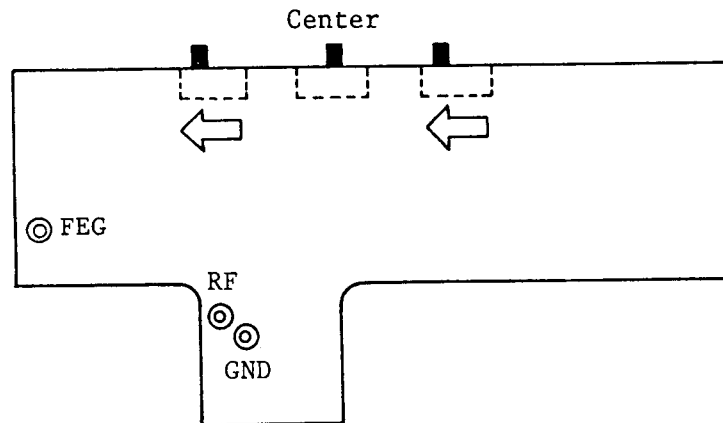

Fig. 2-11
- ① Position the switches of the PCB connection cord as illustrated in Fig. 2-11.
- ① Position the switches of the PCB connection cord to the same positions as in best eye adjustment. (Refer to Fig. 2-11.)
- ② Connect CH1 of the oscilloscope to RF of the PCB connection cord and CH2 to FEG.
- ① Set the switches of the PCB connection cord to the same positions as in the adjustment of best eye. (Refer to Fig. 2-11.)
- ② Check the voltage at the pin ② ($\overline{\text{CLDCK}}$) of LSI/IC-601 (MN6617) with the oscilloscope.